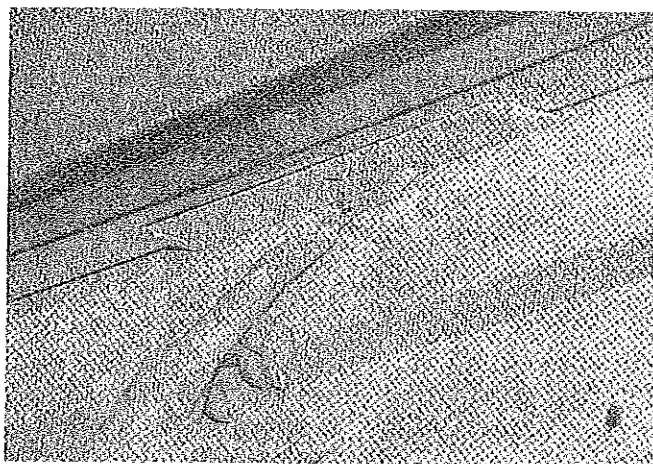
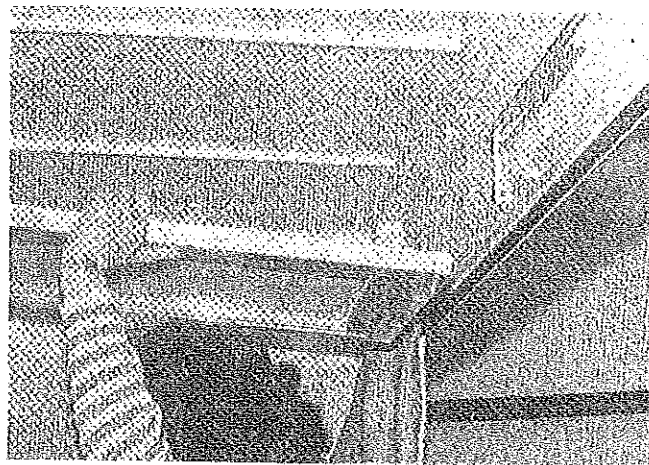

FIGURE 18
FIGURE 19
2. Standing at the door opening, pull down on the spring-loaded pin clip retaining the door frame and swivel clear of the engagement hole. See Figure 18. Standing at the door threshold, reach up and grasp the bottom of the screen door with both hands. Raise and push the door toward the far side of the trailer to release it from its retaining brackets. See Figure 19.